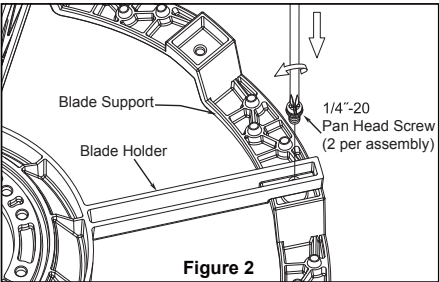

Figure 2
2. Position blade support under blade holder and aligning blade support holes with hole in blade holder. Make sure the blade support is fully seated against and install with 1/4"-20 screws. (Figure 2)